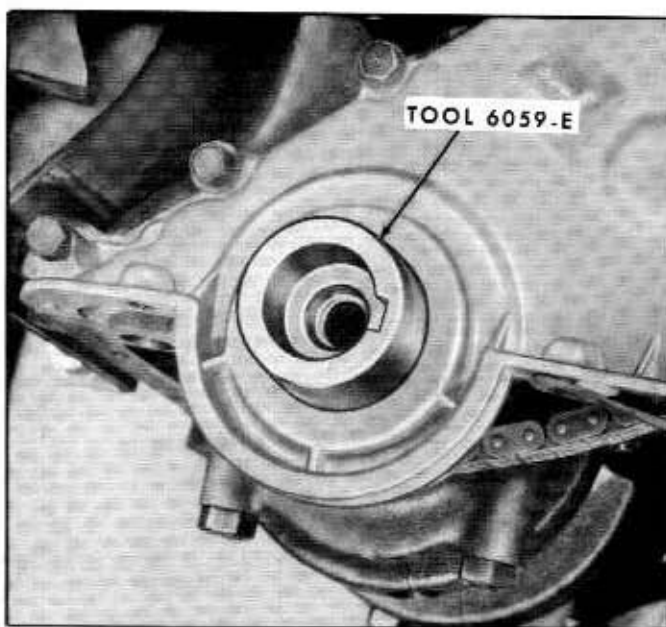

Fig. 6A-81—Aligning Cylinder Front Cover—(61CM-5612)
2. Coat a new seal with grease and install the seal. See figure 6A-80. Drive the seal in until it is fully seated in the recess. Check the seal after installation to be sure the spring is properly positioned in the seal.
1. Position the sprockets and timing chain on the camshaft and crankshaft. Be sure the timing marks on the sprockets and chain are positioned as shown in figure 6A-79. Install the camshaft sprocket capscrew and washer. Install the crankshaft front oil slinger.
cover seal to the crankshaft with Tool 6059-E as shown in figure 6A-81. Tighten the mounting bolts to 6-9 lbs. ft. torque. (The crankcase ventilation tube bracket is retained by one cylinder front cover bolt).